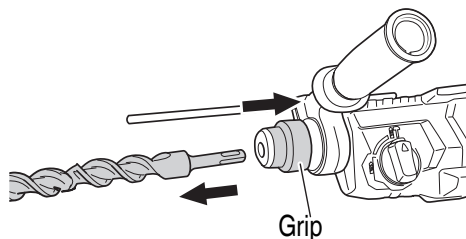

Fig. 2
- (4) To remove the tool, fully pull the grip in the direction of the arrow and pull out the tool (**Fig. 2**).